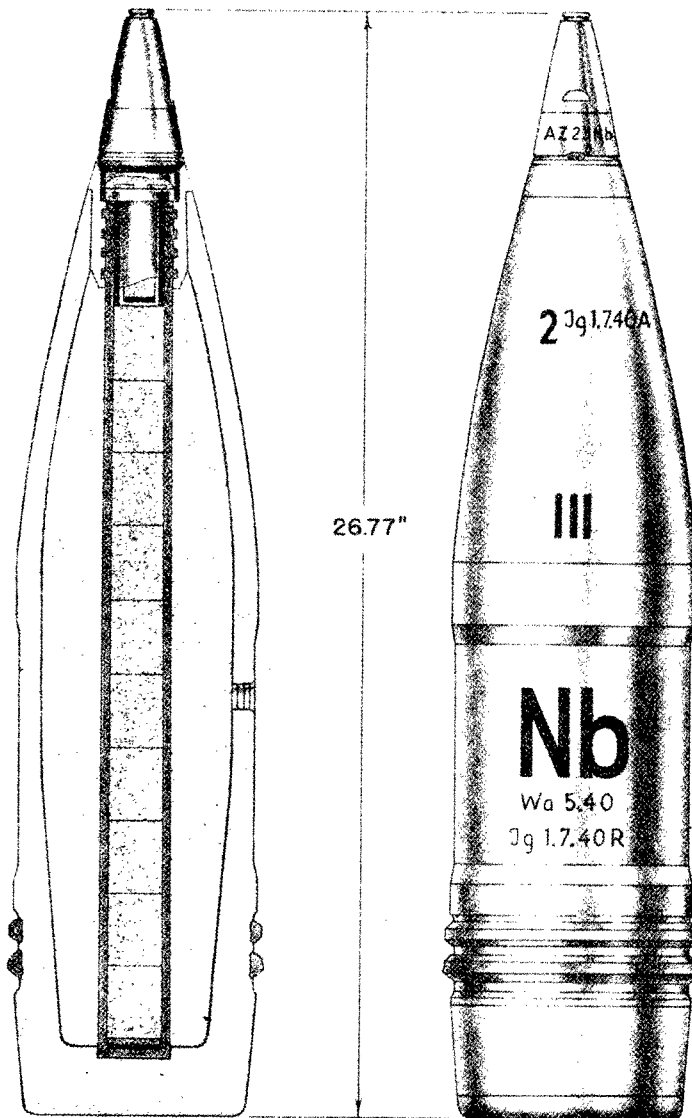

Figure 499—Smoke Projectile, Type 19, 150-mm, 15-cm Gr. 19 Nb.
**GERMAN NOMENCLATURE:** 15-cm Gr. 19 Nb. (Granate 19' Nebel). (See fig. 499.)